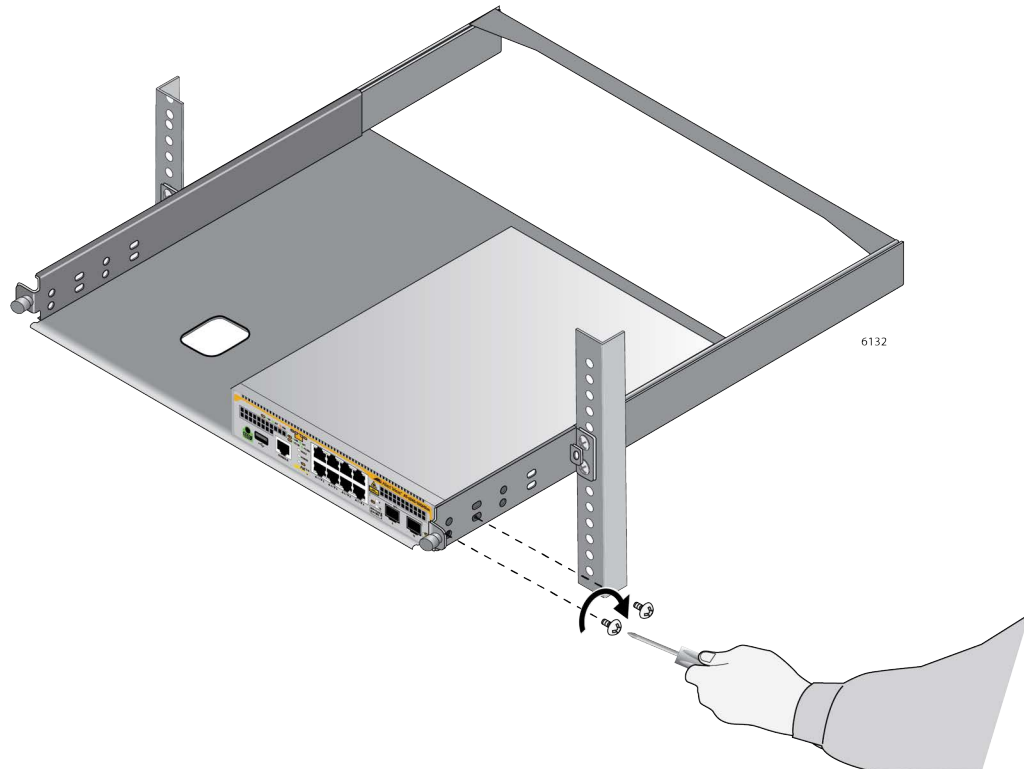

Figure 41. Securing the Switch to the RKMT-J15 Bracket
8. Install two M4x6mm screws included with the RKMT-J15 Bracket to secure the switch to the bracket. Refer to Figure 41.